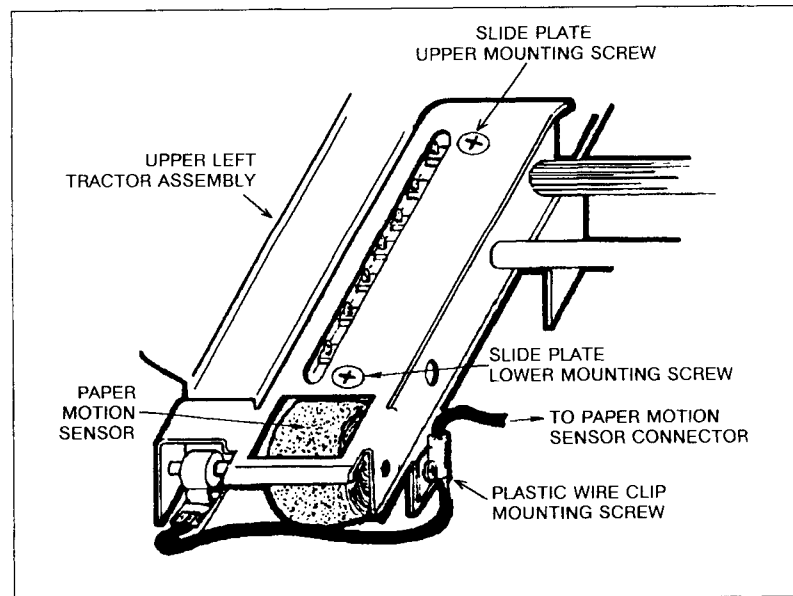

Figure 6-41. Paper Motion Sensor
The PAPER MOTION sensor is located in the upper left tractor assembly. It consists of a spring mounted foam wheel which turns when paper is passing through the tractor. The wheel is connected to a shaft which rotates a magnet. A Hall effect sensor detects this rotation, indicating paper motion (see Figure 6-41).
- e. Open the hinged tractor pressure plate and remove the lower mounting screw (Pozi-drive) on the slide plate assembly (see Figure 6-41).
- h. From the rear of the printer, remove the horizontal screw securing the plastic wire clip to the bracket on the bottom of the tractor assembly (see Figure 6-41).